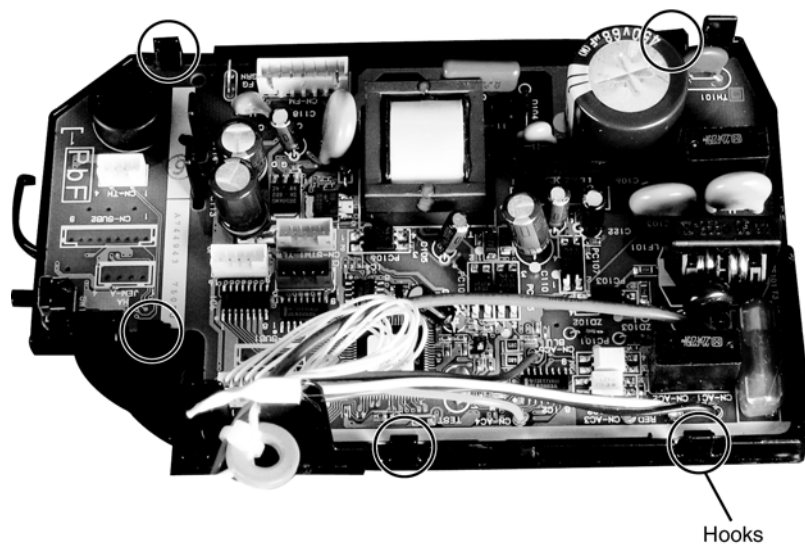

Fig. 8
6. Remove the control boards cover (L) by releasing the hooks then remove the PCB from the control board cover (L). (Fig.8)